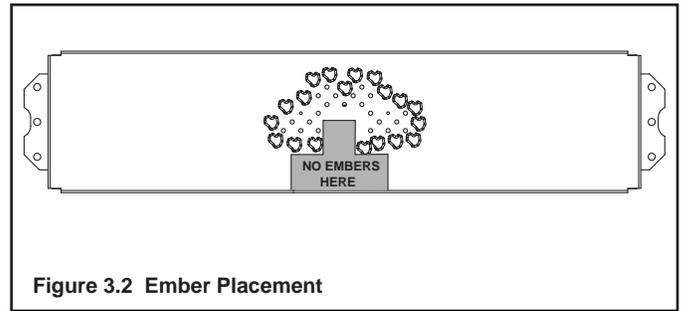

Figure 3.2 Ember Placement
- Replace Glowing embers with new dime-size pieces. **DO NOT** block ports or obstruct lighting paths. See Figure 3.2.
- Do NOT place embers in the center area shown in Figure 3.2.